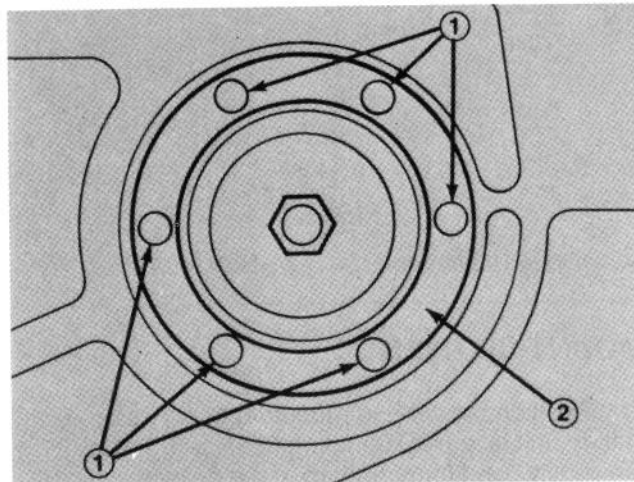

Figure 2
4. Remove six flange bolts and nuts holding spindle housing assembly and support ring against cutting unit. Slide spindle housing assembly out bottom of cutting unit (Fig. 2).
7. Slide pulley end of spindle assembly through hole in cutting unit. Mount spindle assembly and support ring in place with (6) flange bolts and nuts. (Fig. 2). (On later models the support ring is welded to the deck).